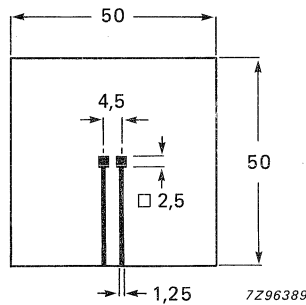

Fig.2 Mounted on a printed-circuit board.
2. Thermal resistance from junction to ambient; device mounted on an 1.5 mm thick epoxy-glass printed-circuit board; Cu-thickness  $\geq 40\text{ }\mu\text{m}$  (see Fig.2)  $R_{th\ j-a} = 150\text{ K/W}$